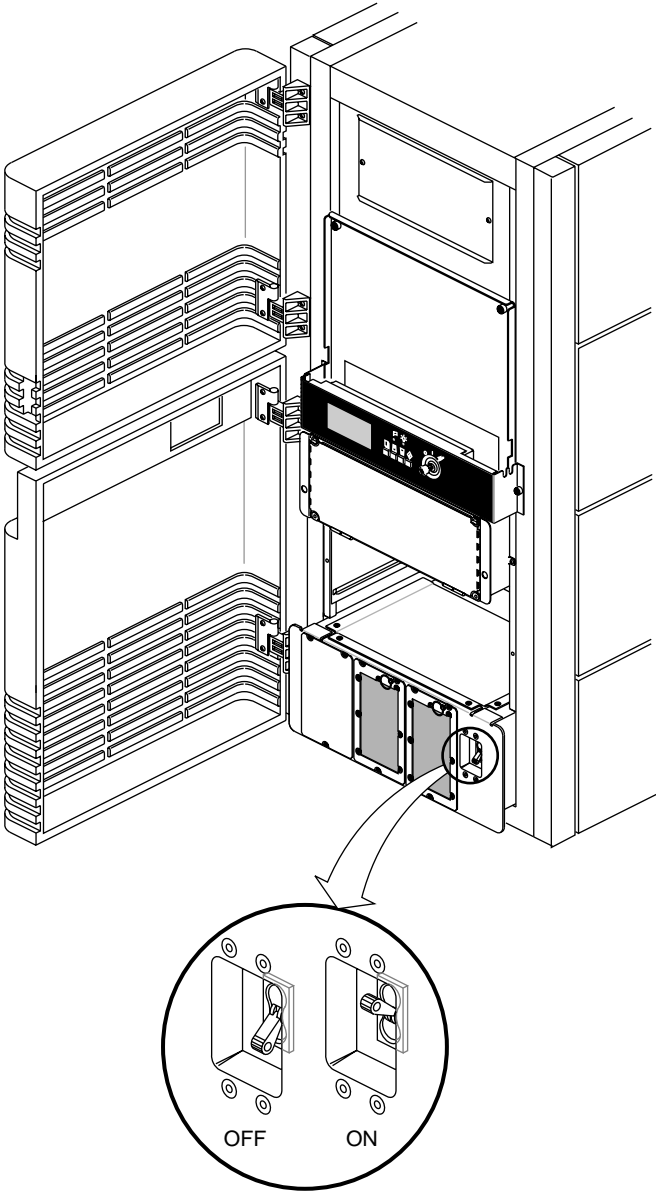

Figure 3-5 Power Switch
6. Turn on the system power switch (see Figure 3-5).